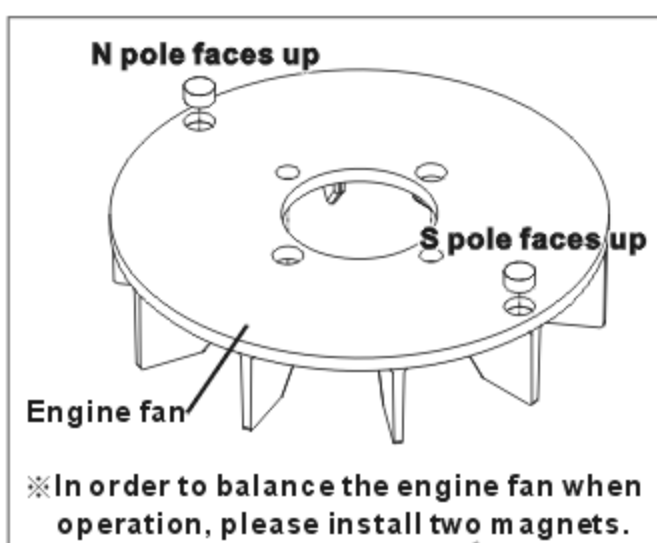

Fig. 1
1. See Fig. 1, first install two magnets on the mounting hole of the engine fan with CA glue or R48 glue, the north pole of one magnet (mark N) faces up and the north pole of the other magnet faces down.